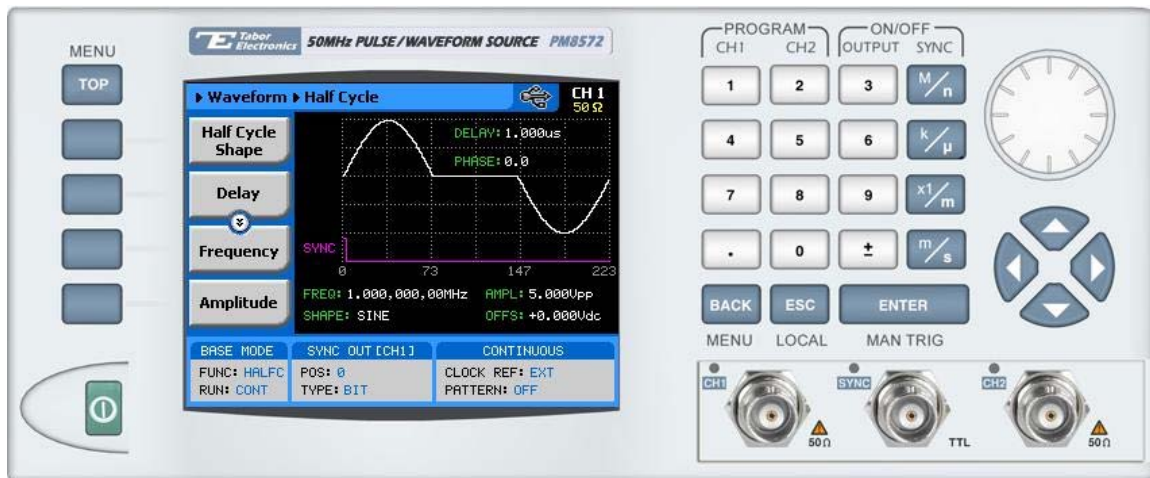

Figure 3-82, the Digital Pattern Menus
4. Press the Enter button to select the half cycle function Figure 3-82 shows the half cycle panel and menus.
There are various settings that define how the instrument will generate half cycles. For example, spacing between the halves can be programmed to any length between 200 ns to 20 s. Figure 3-82 shows the various half cycle menus. The half cycle menus are described below.